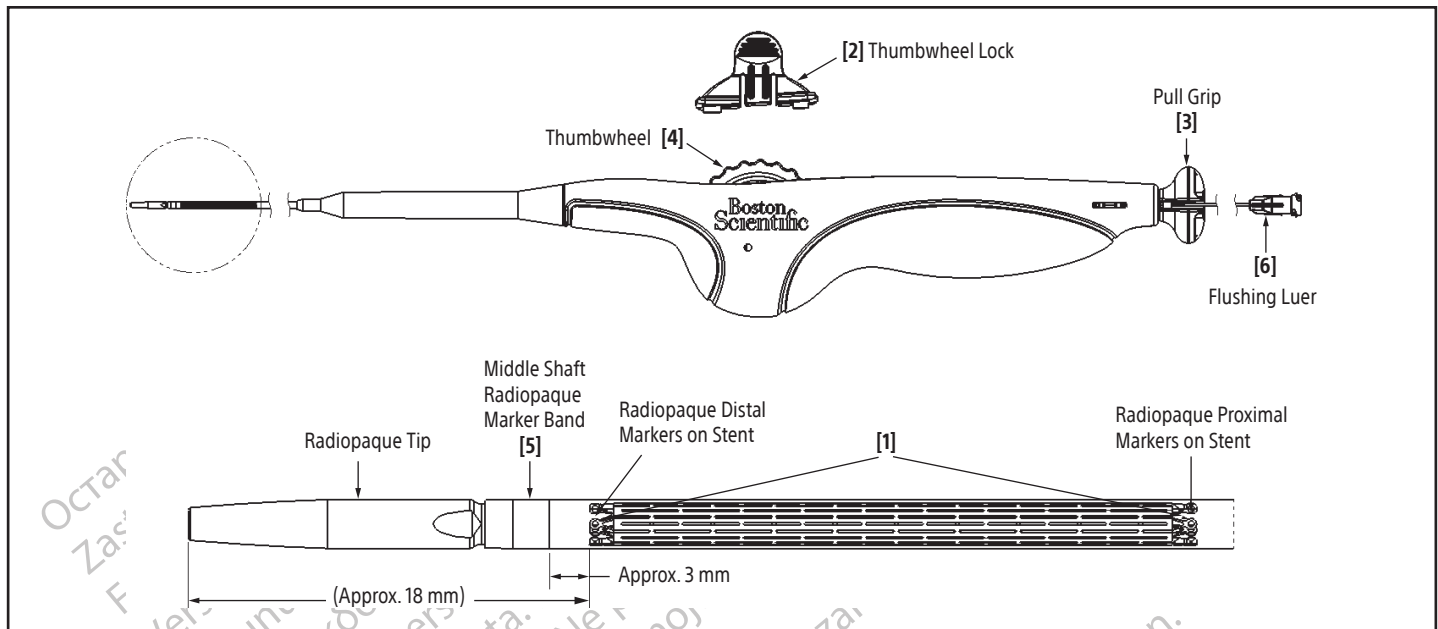

Figure 4. Stent Delivery System
7. Attach a 10 ml (10 cc) syringe filled with saline to the flushing luer [6] on the handle. Apply positive pressure. Continue to flush until saline appears at the distal end of the guidewire lumen. Remove the flushing luer [6] (by pulling the syringe or by pulling flushing luer [6]) (Reference Figure 4).